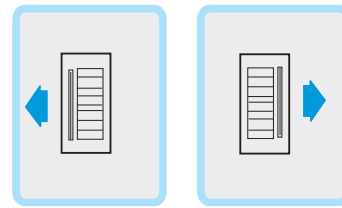

Figure 2.2
5. Based on the shape of the room, determine the airflow directions for the installation site. See Figure 2.2 for the schematic on the direction of airflow.